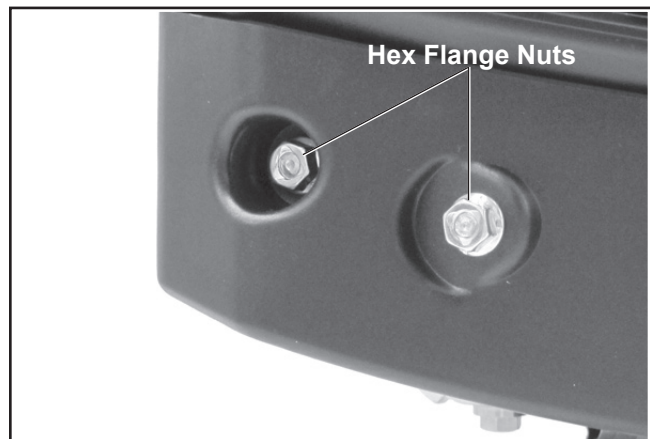

Figure 7. Remove Cover.
1. Remove the hex flange nuts from the air box cover and remove the cover. See Figure 7.